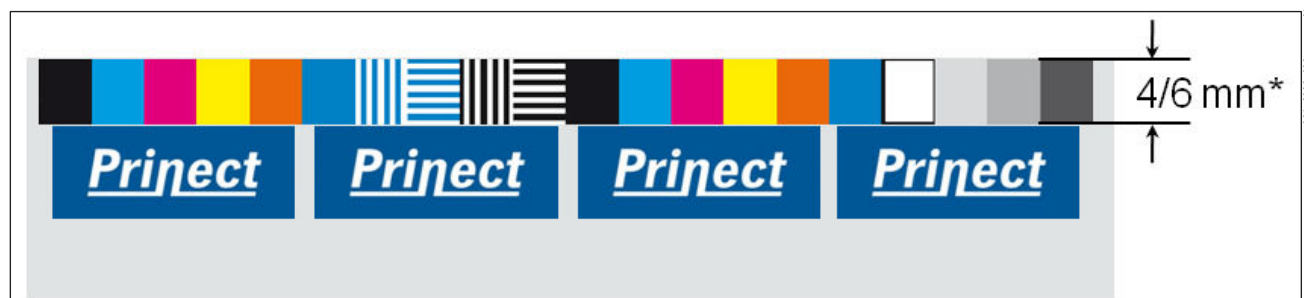

Fig. 27 Measurement field size with auto tracking, from software version S12A
- The paper white is no longer needed as of software version S12A (Fig. 27).